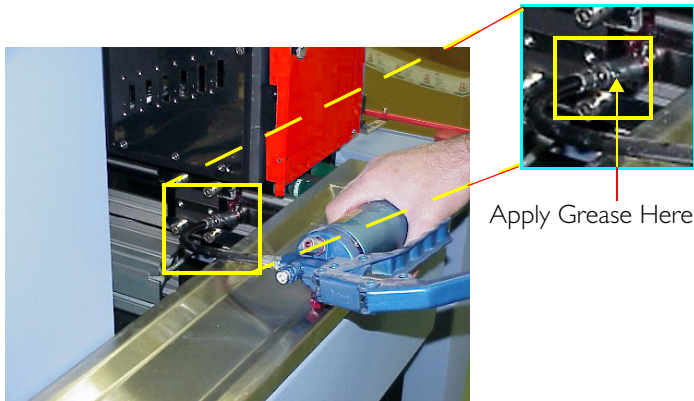

Figure 26. Grease Nipple at the Side of the Head Carriage
7. Apply a small quantity of grease to the nipple at the left side of the carriage - see Figure 26.